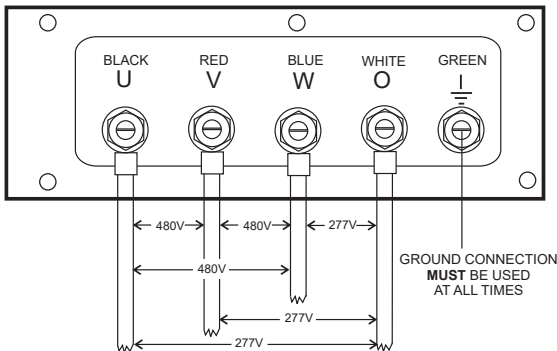

Figure 25. UVWO Terminal Lugs (3-Phase 480-Volt Connections)
2. Connect the load wires to the **UVWO terminal lugs** as shown in Figure 25.